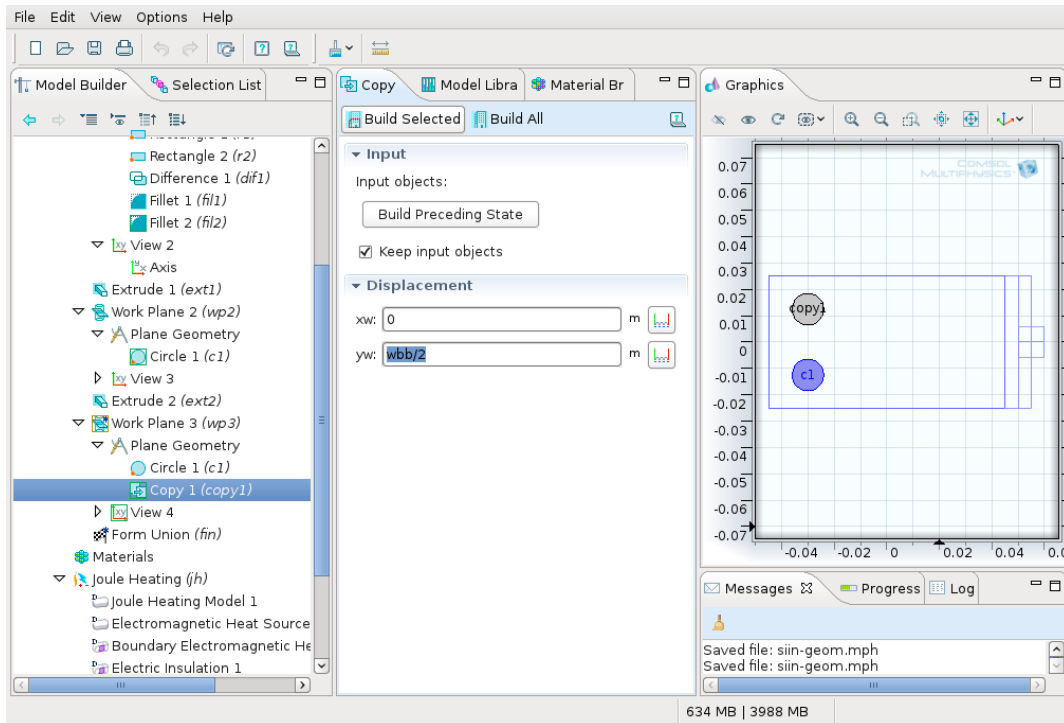

Figure 26: Drawing the third polt.
- **Work Plane 3** → **Plane Geometry: right button** → **Transforms** → **Copy** (Fig. 26);